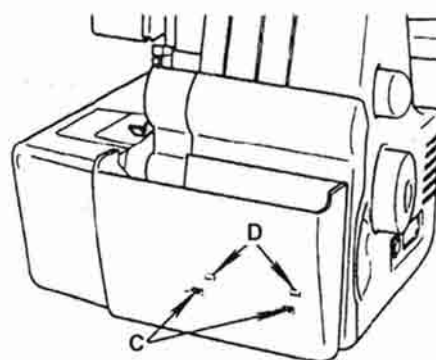

Fig. 7
- Then guide the two restraints (C) into the receiving holes (D) (Fig. 7).